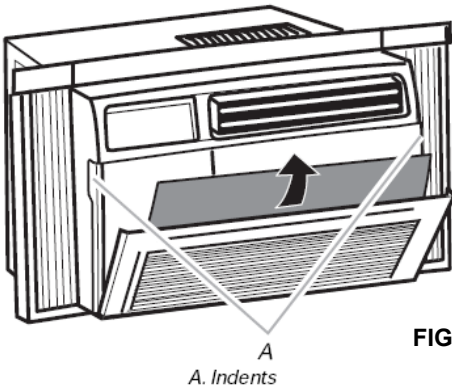

FIG. 13
- 7** Cut foam seal and insert in the space between the upper and lower sashes (FIG. 13).
1. Remove the filter by pulling down on the indents of the filter door on the front of the unit. (See FIG. 13)